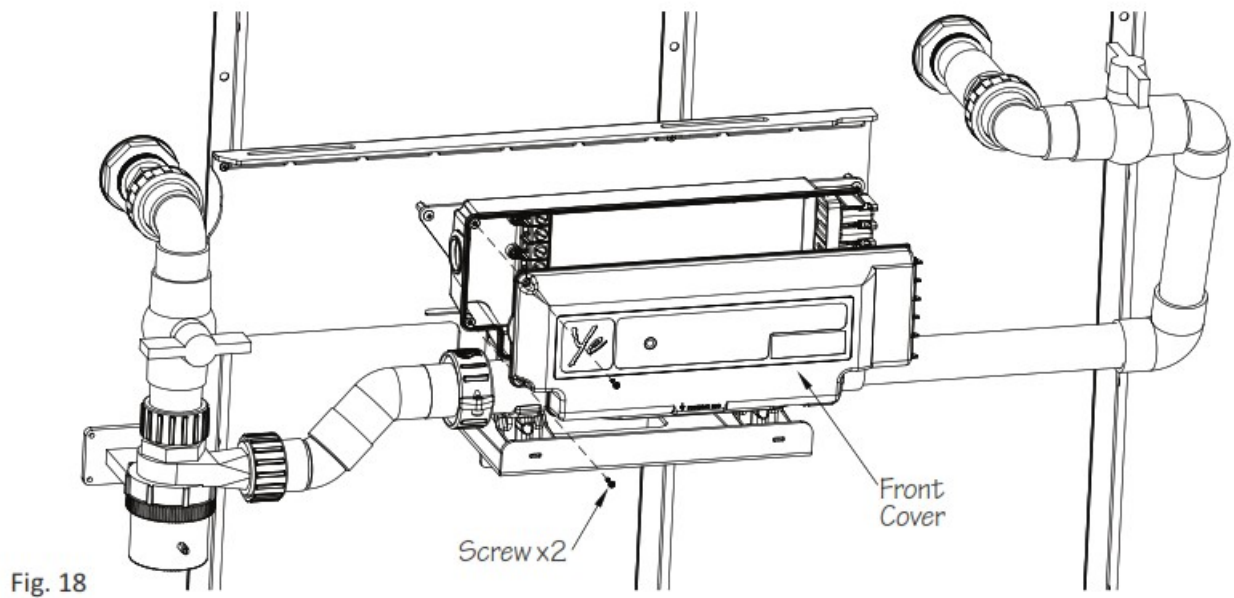

Fig. 18
19. Re-install the front cover of the controller (Fig. 18).